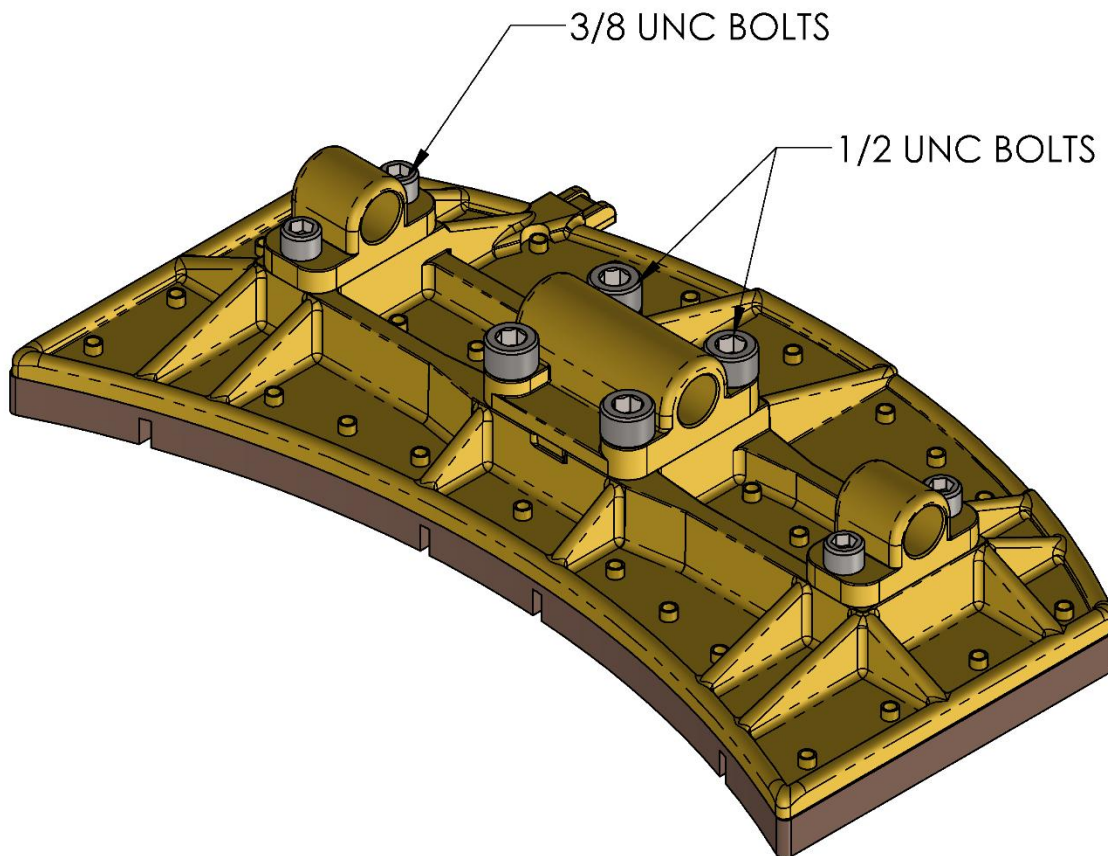

Figure 7: Pivot block mounting bolt placement
16. Install the pivot block bolts observing the placement of the different sized inner and outer pivot block bolts as shown in Figure 7. **FINGER TIGHTEN** the pivot blocks in this step.